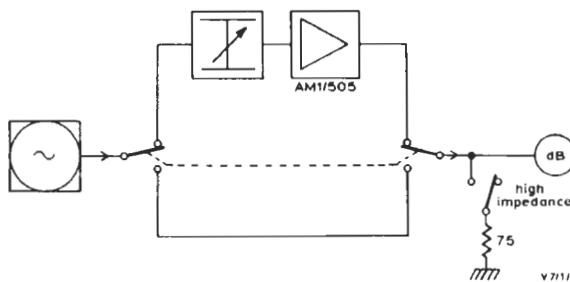

Fig. 1.6. AM1/505: Frequency Response Test Circuit
1. Connect the amplifier and test equipment together as shown in Fig. 1.6.